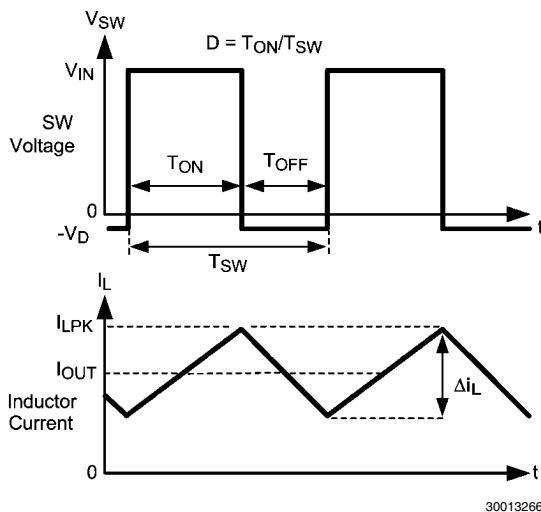

FIGURE 2. SW Pin Voltage and Inductor Current Waveforms
The LM2833 is a constant frequency PWM buck regulator IC that delivers a 3.0A load current. The regulator is available in preset switching frequencies of 1.5MHz or 3.0MHz. This high frequency allows the LM2833 to operate with small surface mount capacitors and inductors, resulting in a DC/DC converter that requires a minimum amount of board space. The LM2833 is internally compensated, therefore it is simple to use and requires few external components. The LM2833 uses peak current-mode control to regulate the output voltage. The following description of operation of the LM2833 will refer to the Typical Application Circuit, to the waveforms in *Figure 2* and simplified block diagram in *Figure 1*. The LM2833 supplies a regulated output voltage by switching the internal PMOS power switch at a constant frequency and variable duty cycle. A switching cycle begins at the falling edge of the reset pulse generated by the internal oscillator. When this pulse goes low, the output control logic turns on the internal PMOS power switch. During this on-time, the SW pin voltage (V_{SW}) swings up to approximately V_{IN} , and the inductor current (I_L) increases with a linear slope. I_L is measured by the current sense amplifier, which generates an output proportional to the switch current. The sense signal is summed with the regulator's corrective ramp and compared to the error amplifier's output, which is proportional to the difference between the feedback voltage and V_{REF} . When the PWM comparator output goes high, the internal power switch turns off until the next switching cycle begins. During the switch off-time, the inductor current discharges through the catch diode D1, which forces the SW pin to swing below ground by the forward voltage (V_D) of the catch diode. The regulator loop adjusts the duty cycle (D) to maintain a constant output voltage.
The inductor value determines the output ripple current (Δi_L , as defined in *Figure 2*). Lower inductor values decrease the size of the inductor, but increase the output ripple current. An increase in the inductor value will decrease the output ripple current. In general, the ratio of ripple current to the output current is optimized when it is set between 0.2 and 0.4 for output currents above 2A. This ratio r is defined as: